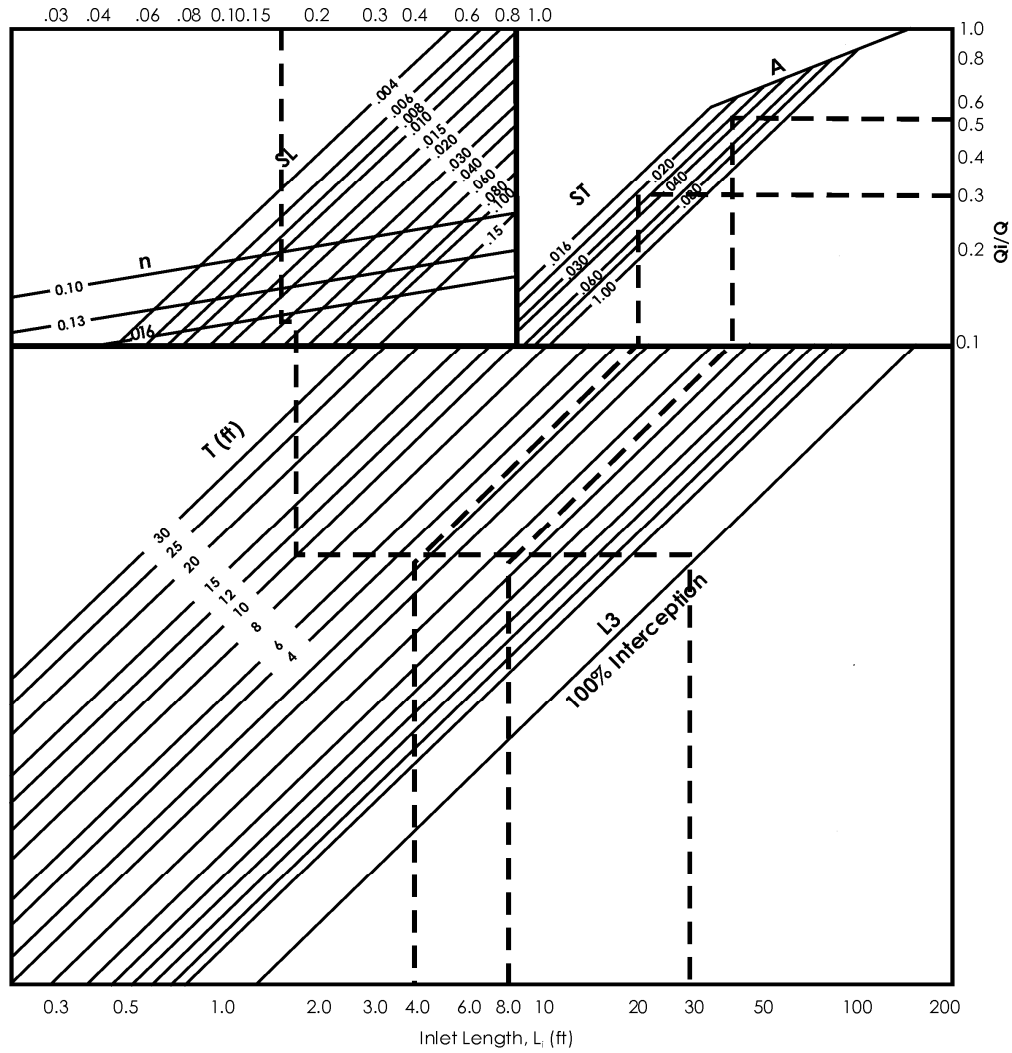
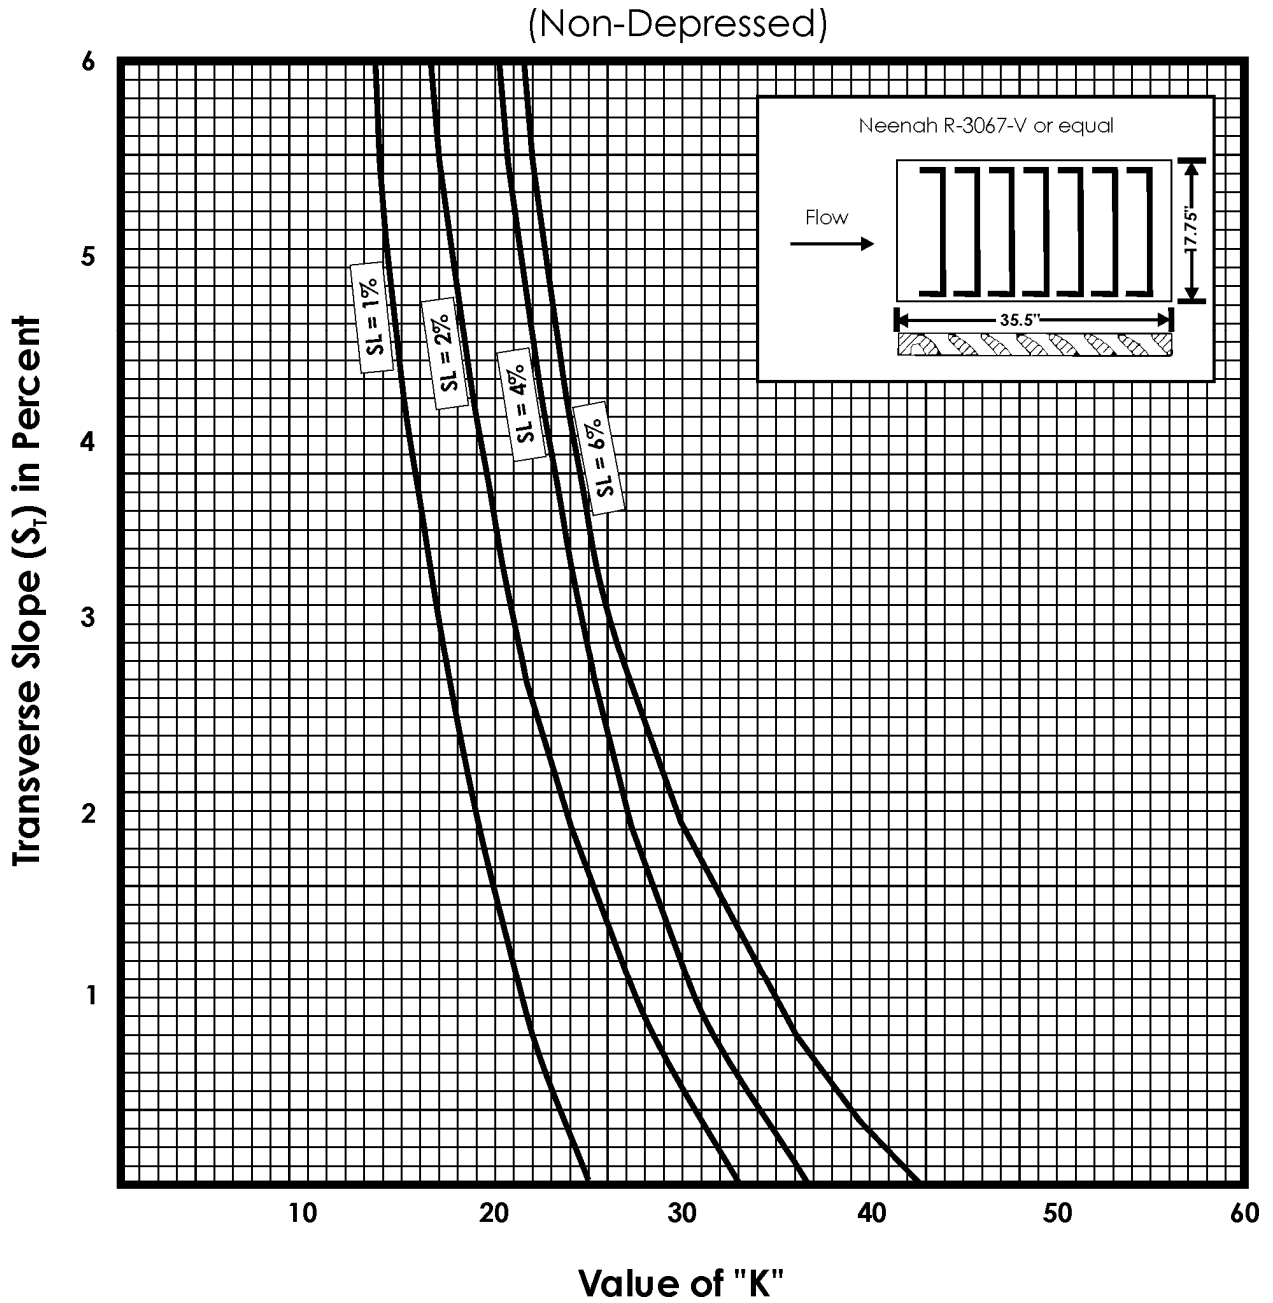

Figure 3: "K" Values for Standard Type SW-501, 502, 503, 504, 505, and 506 Intakes - Vane Grate and Curb Hood
Figure 4: "K" Values for Driveway Grate Intake
- K = Value Used in Equation Q = Kd (See Figures 3 and 5)
Figure 3 is used to determine "K" for a vane grate and includes the curb hood. Figure 4 gives "K" for a driveway condition where no curb hood can be used. The appropriate reduction factor from Table 1 must then be applied to obtain the actual flow intercepted by the intake.
Figure 3 is used to determine "K" for a vane grate and includes the curb hood. Figure 4 gives "K" for a driveway condition where no curb hood can be used. The appropriate reduction factor from Table 3 must then be applied to obtain the actual flow intercepted by the intake.
- 1) Enter Figure 3 with the transverse slope ($S_T = 2.0\%$)